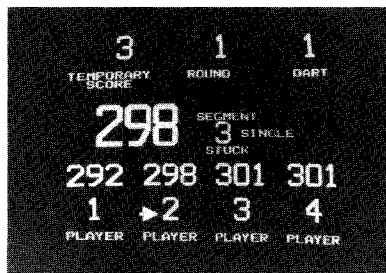
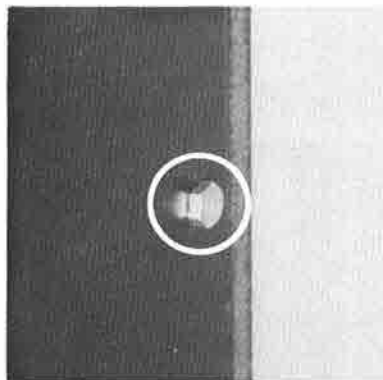

Figure 2. Stuck segment indicator display
Figure 3A. Hex cap bolt holding top to bottom
- Attach top assembly into base assembly as shown in Fig. 2 using four 1/4-20 carriage bolts and nuts and two 1/4" hex cap bolts as shown in Fig. 3A.